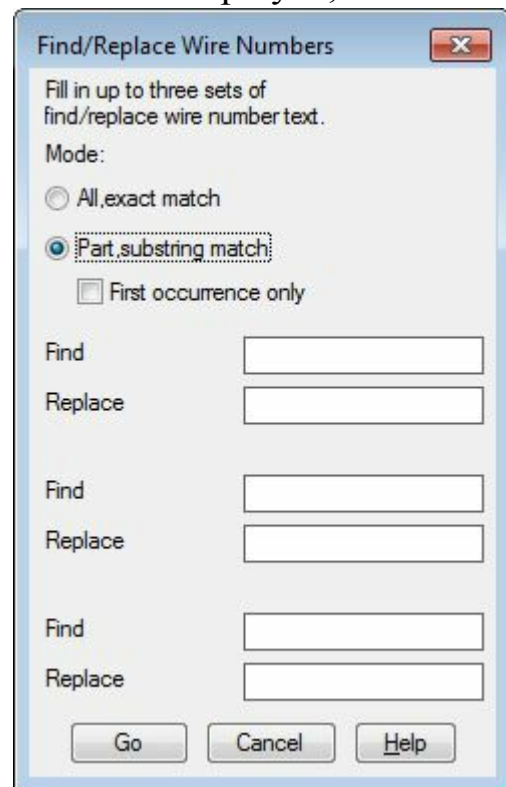

Figure-52. Find or Replace Wire Numbers dialog box
- Click on the **Find/Replace** tool from the drop-down. The **Find/Replace Wire Numbers** dialog box will be displayed; refer to Figure-52.